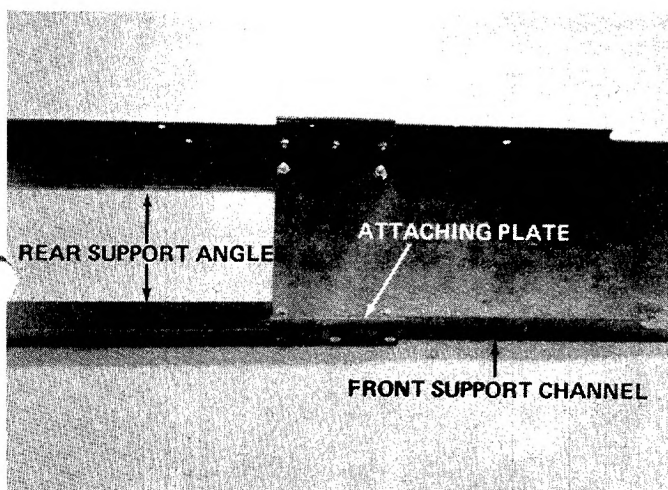

FIGURE 9
- E. Raise front support channel up and secure the bottom four holes with hex bolts (G), lock washer (H) and hex nuts (I). See figure 9.